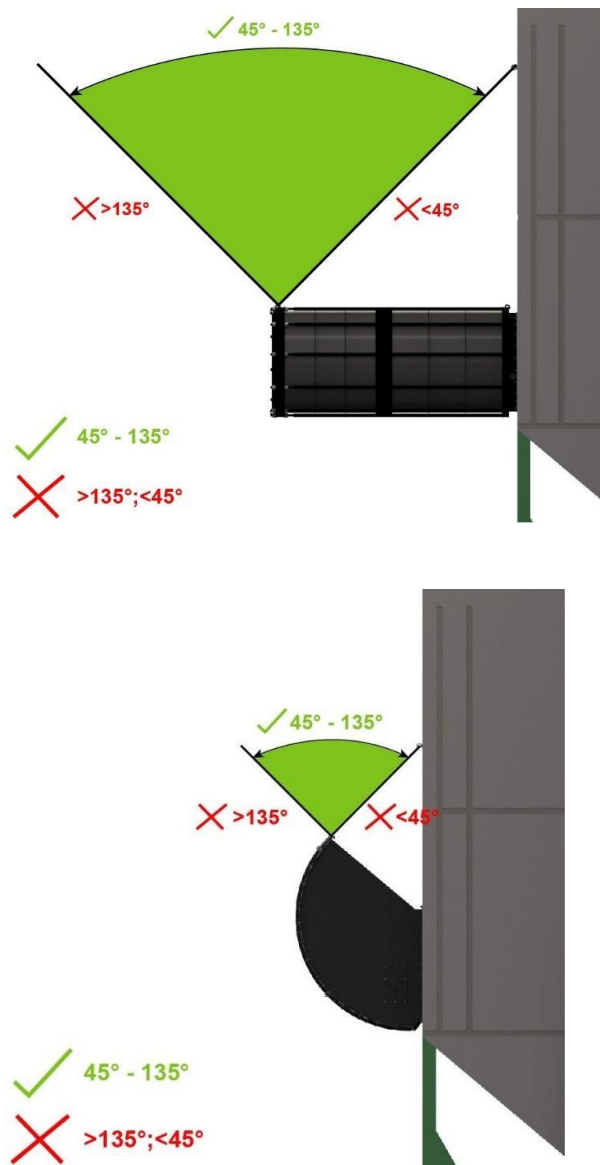

Figure 2 - Permissible position of anchoring eyes
2. Nut with eye DIN 512, size according to table 1. Select the position according to Fig. 2 so that the rope is not less than 45° from the horizontal plane of no more than 135° . The eye must be secured in such a way as to be able to pass the reaction in the rope (see Table 1), without damaging the object to which it is fastened. Advantageously, the eye is anchored to the protected technology itself, to the ceiling or other suitable strength-compliant structure according to the above table.
4. The rope clamp, EN 13411-5, is used to create a loop and attach it to the FLEX PRO (S) mesh, the anchor eye or the tensioner. The loop must be created with a number of terminals. The number of terminals used is in tab. 1. The table below shows the necessary spacing between the clamps.